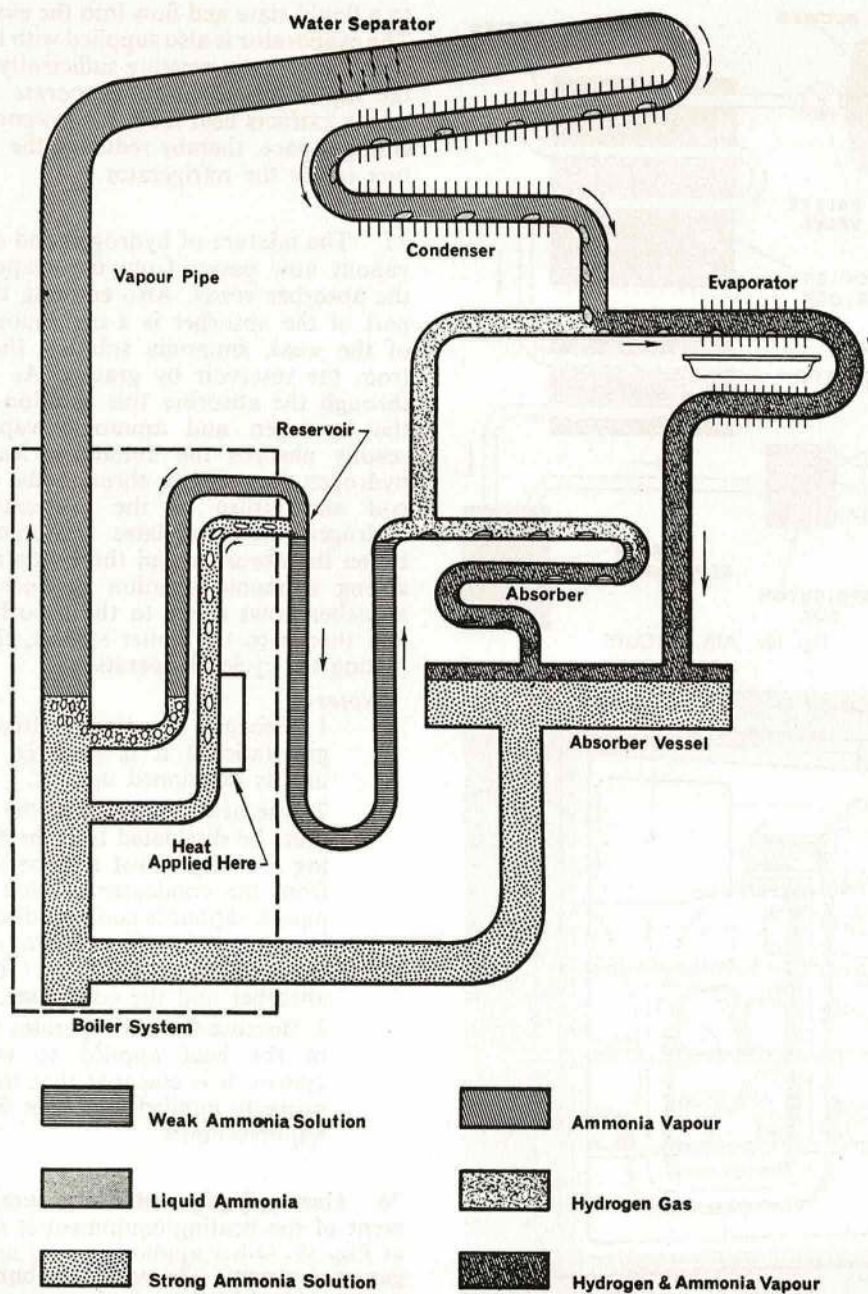

Fig. 18. ABSORPTION TYPE
72. The continuous absorption type of cooling unit is illustrated diagrammatically at Fig. 18. There are no moving parts and operation is by the application of a limited amount of heat. The unit comprises four main parts connected by tubes and charged